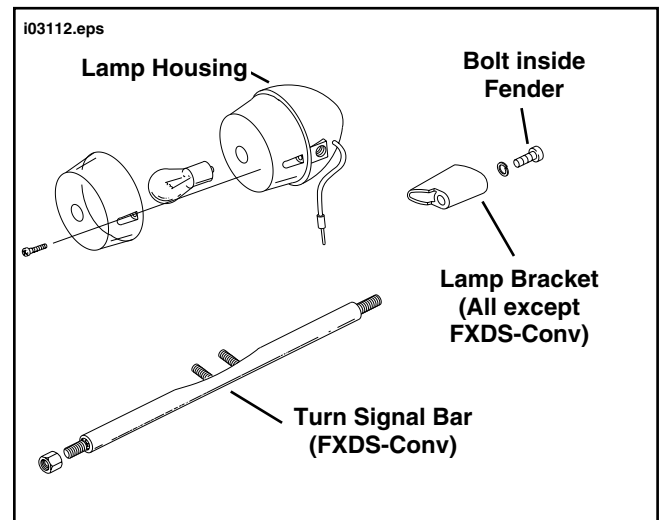

Figure 2. Rear Turn Signal Mounting Hardware
6. See Figure 2. Remove rear turn signals according to the following: